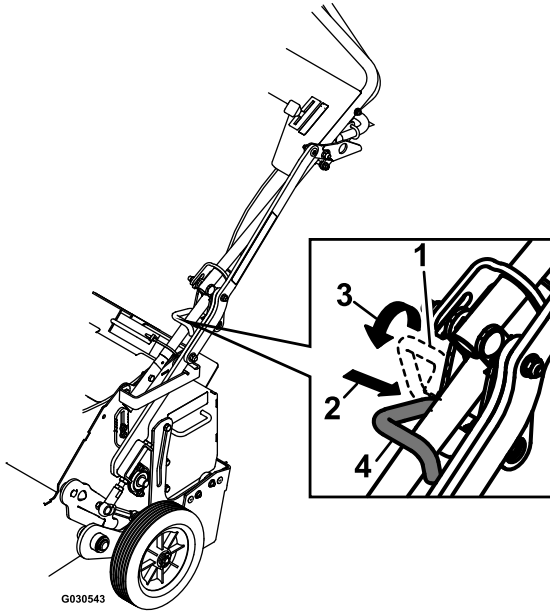

Figure 4
**Note:** Make sure that the transport latch pin is in the locked position (Figure 4).
**Note:** Make sure that the transport-lock pin is engaged when transporting the machine (see Figure 4).